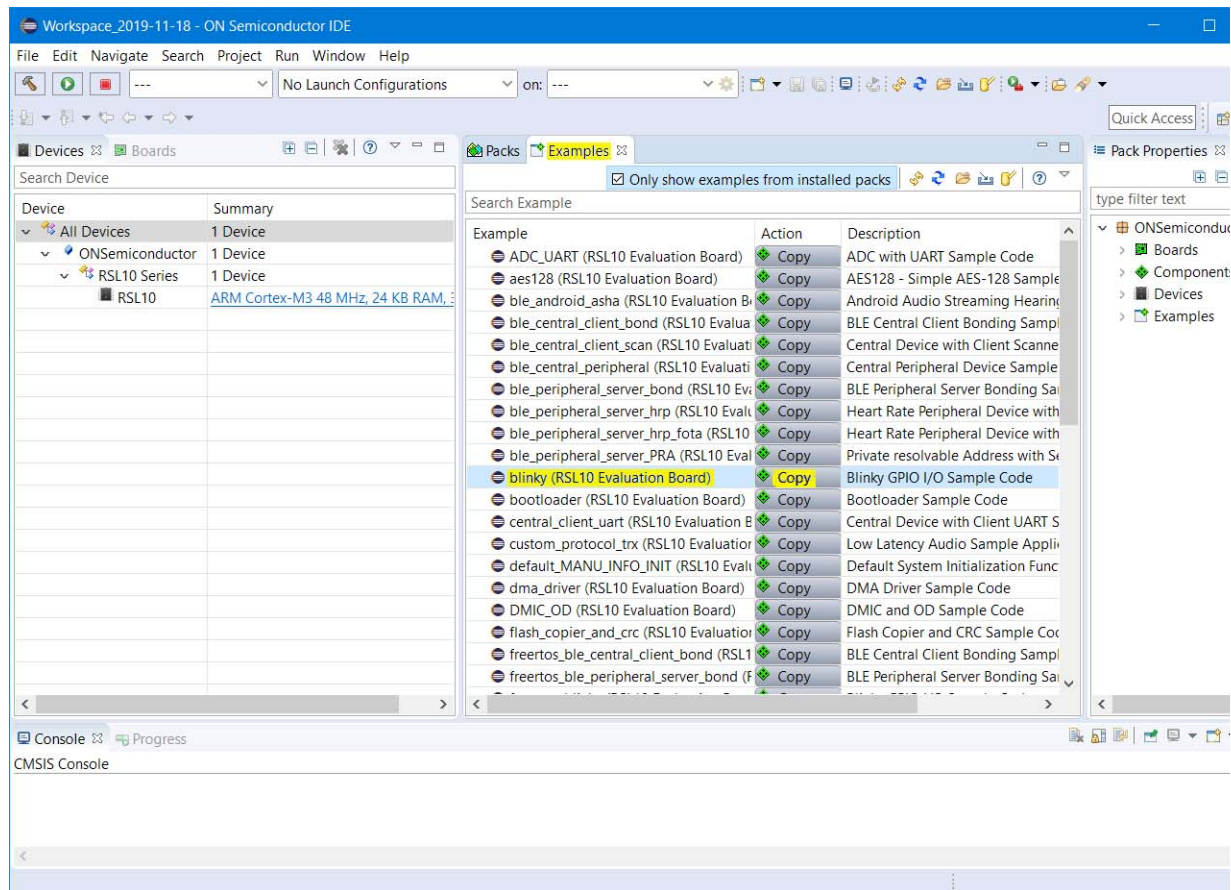

Figure 5. Pack Manager Perspective: Examples Tab
2. Choose the example project called *blinky*, and click the **Copy** button to import it into your workspace (see Figure 5).